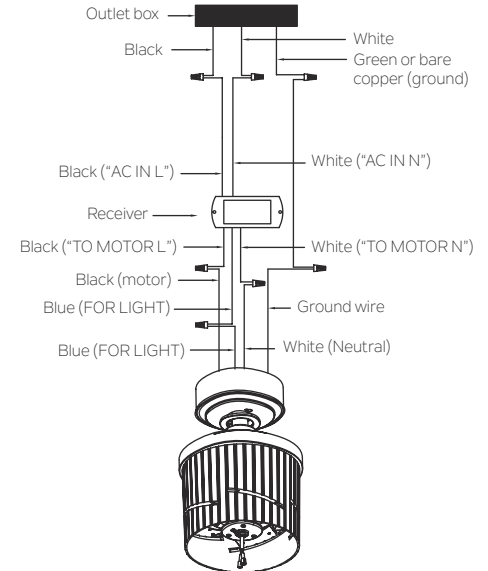

Fig. 14
**Step 2.** Motor to Receiver Electrical Connections: Connect the BLACK wire from the fan to BLACK wire marked "TO MOTOR L" from the receiver. Connect the WHITE wire from the fan to the WHITE wire marked "TO MOTOR N" from the receiver. Connect the BLUE wire from the fan to the BLUE wire marked "FOR LIGHT" from the receiver. Secure all the wire connections with the plastic wire connectors provided. (Fig. 14)
**Step 3.** Remote Receiver to Outlet Box Electrical Connections: Connect the BLACK (hot) wire from the ceiling to the BLACK wire marked "AC IN L" from the receiver. Connect the WHITE (Neutral) wire from the ceiling to the WHITE wire marked "AC IN N" from the receiver. Secure all the wire connections with the plastic wire connectors provided. (Fig. 14)
**Step 4.** If your outlet box has a ground wire (green or bare copper) connect it to the fan ground wires: otherwise connect the fan ground wire to the mounting bracket. Secure the wire connection with a plastic nut provided. After connecting the wires, spread them apart so that the green and white wires are on one side of the outlet box and black and blue wires are on the other side. (Fig. 14)